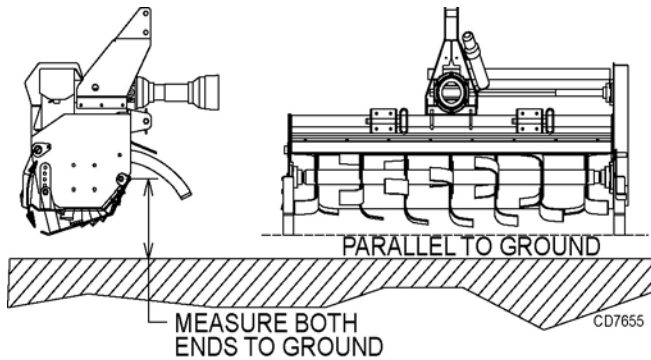

Figure 5. Leveling the Tiller
- Level tiller side to side. Check by measuring from the forward skid shoe pivot to the ground on each side. (Figure 5)